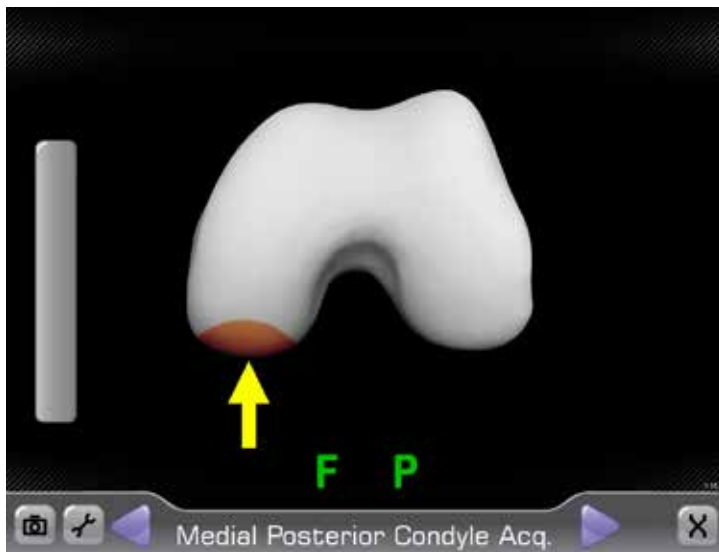

Figure 13
The Medial Posterior Condyle Acquisition screen is displayed (*Figure 13*). Position the tip of the Probe Tracker (P) on the medial posterior condyle press the Forward button. Ensure the tip of the tracker maintains contact with the condyle and trace a patch that captures the most posterior aspect of the condyle. This is best achieved by moving the probe tip in proximal-distal in the sagittal plane.